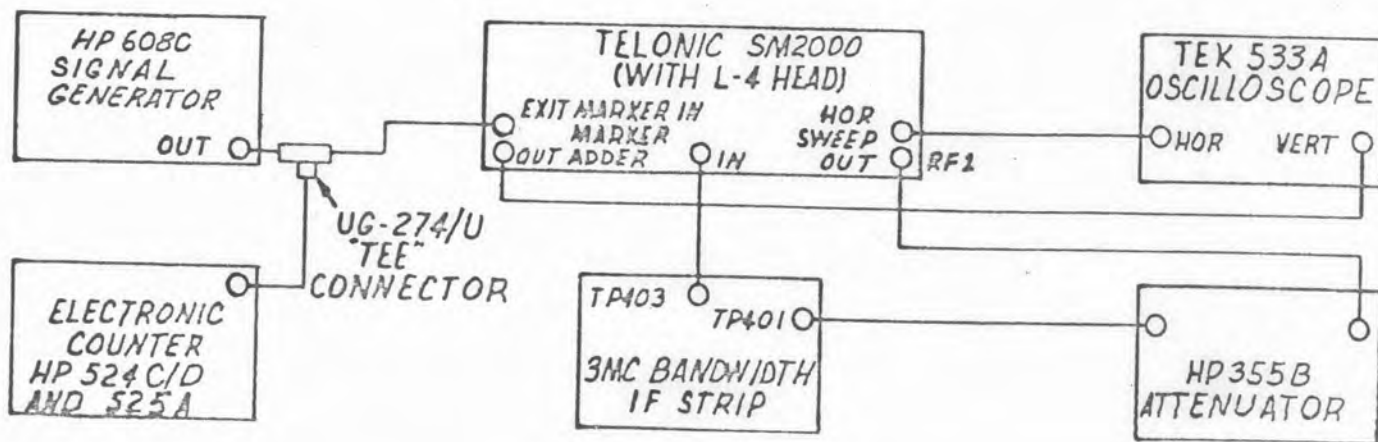

Figure 5-2
- Set up equipment as shown in figure 5-2.
a. Return test setup to that shown in figure 5-2, except connect sweep output to TP402 and make adjustments described in paragraph 5-4.